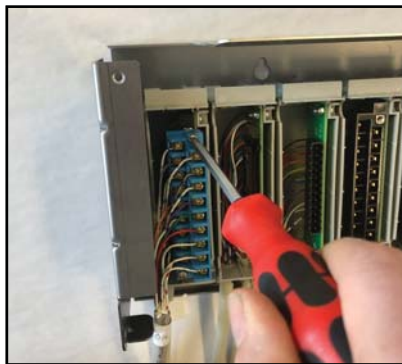

Figure 6a
- a) Locate the field wiring terminal block which was disconnected in step 2a. Check the labels on the field wiring and on the conversion modules to verify that the connections are correct. Mount the field terminal block onto the conversion module and fasten screws (if applicable). (See figure 6a)